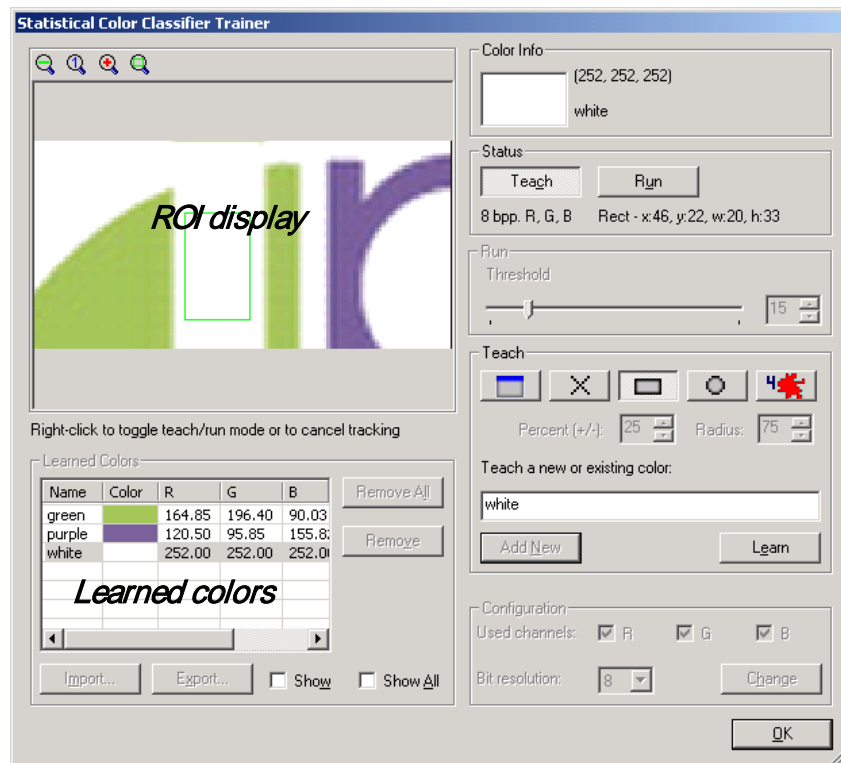

Figure 67. Statistical Color Classifier Trainer
The Trainer window (Figures 67 and 68) creates or modifies the Color Classifier file. The file format is defined by the algorithm. The Spot meter creates a Statistical classifier. The Color Map and Color Presence algorithms create a Block classifier.
- The Statistical Color Classifier (Figure 67) allows one color for each label or name, and allows a different Threshold value for each trained color.